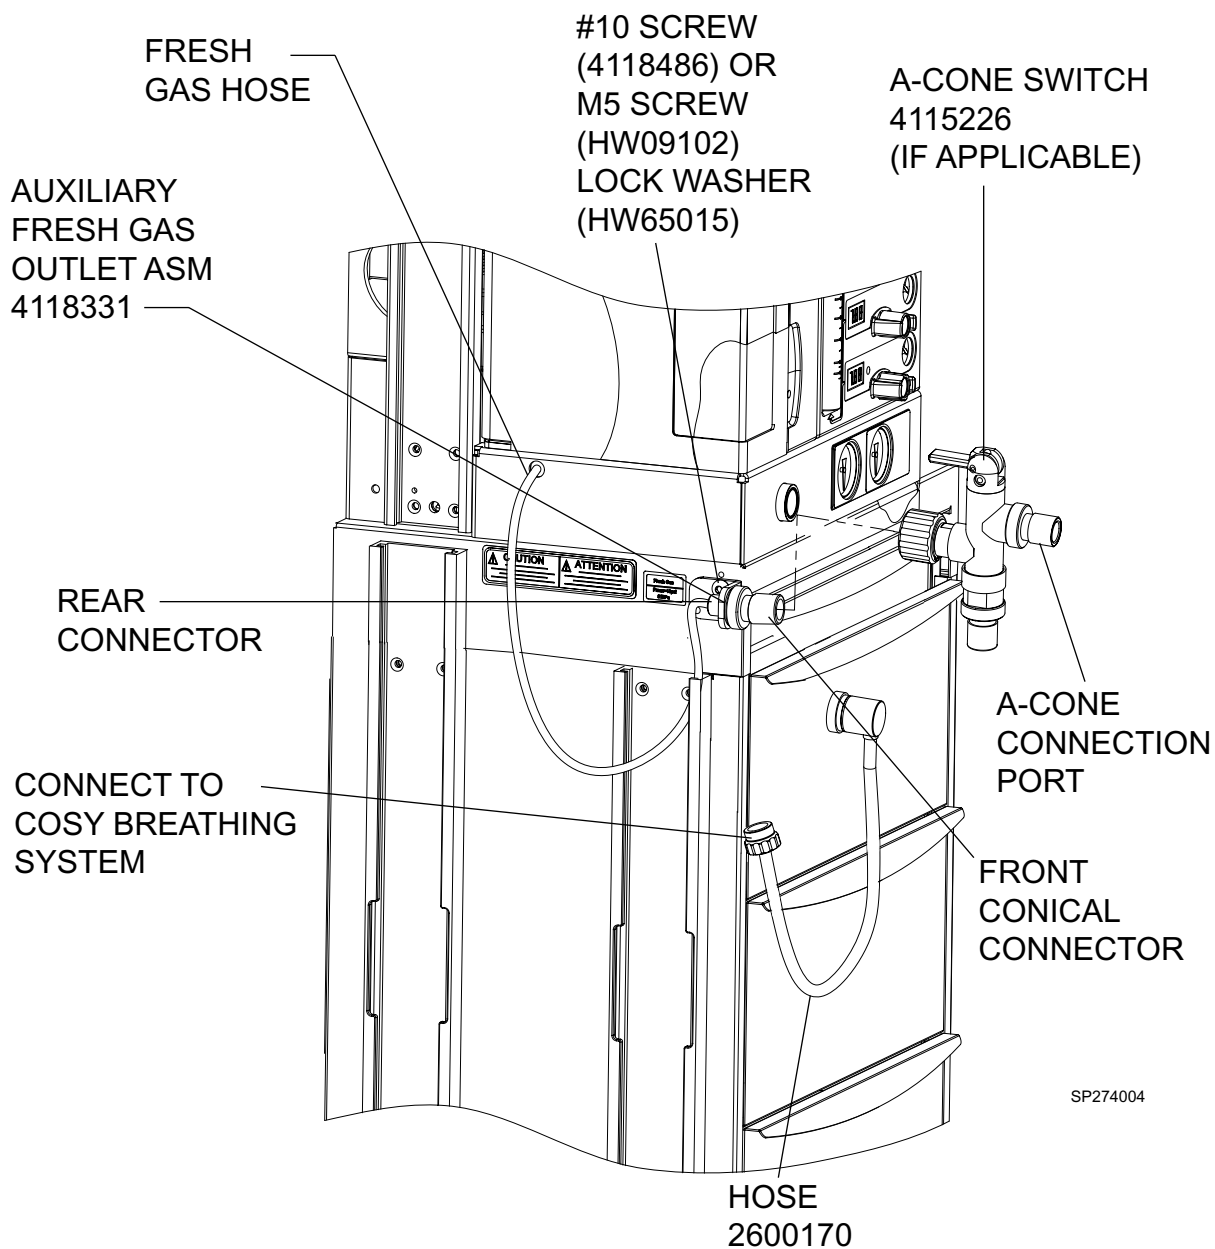
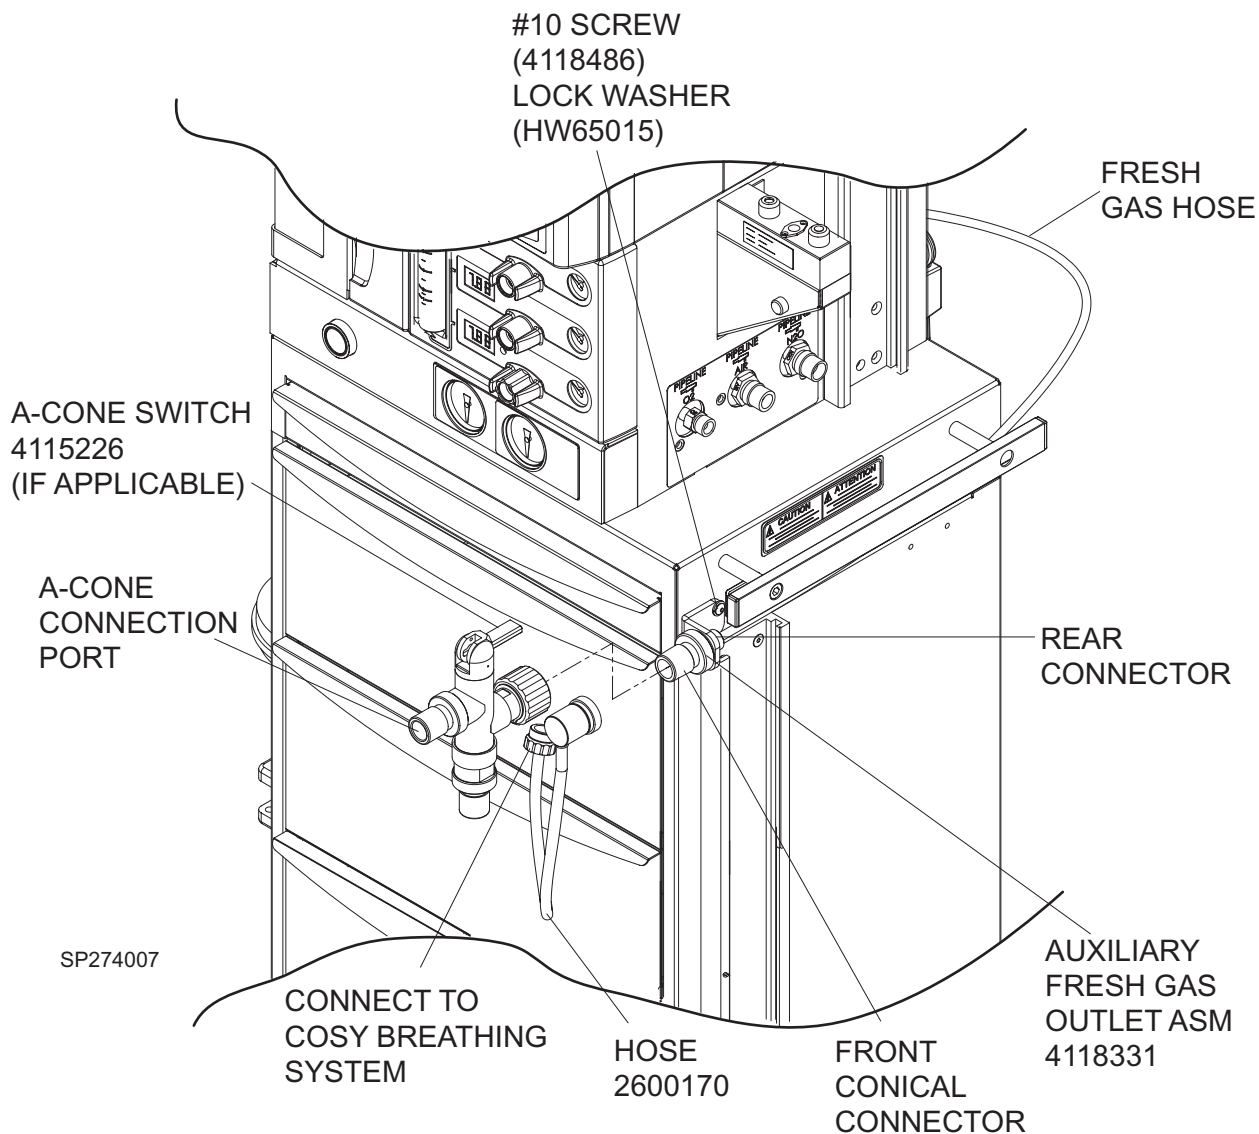
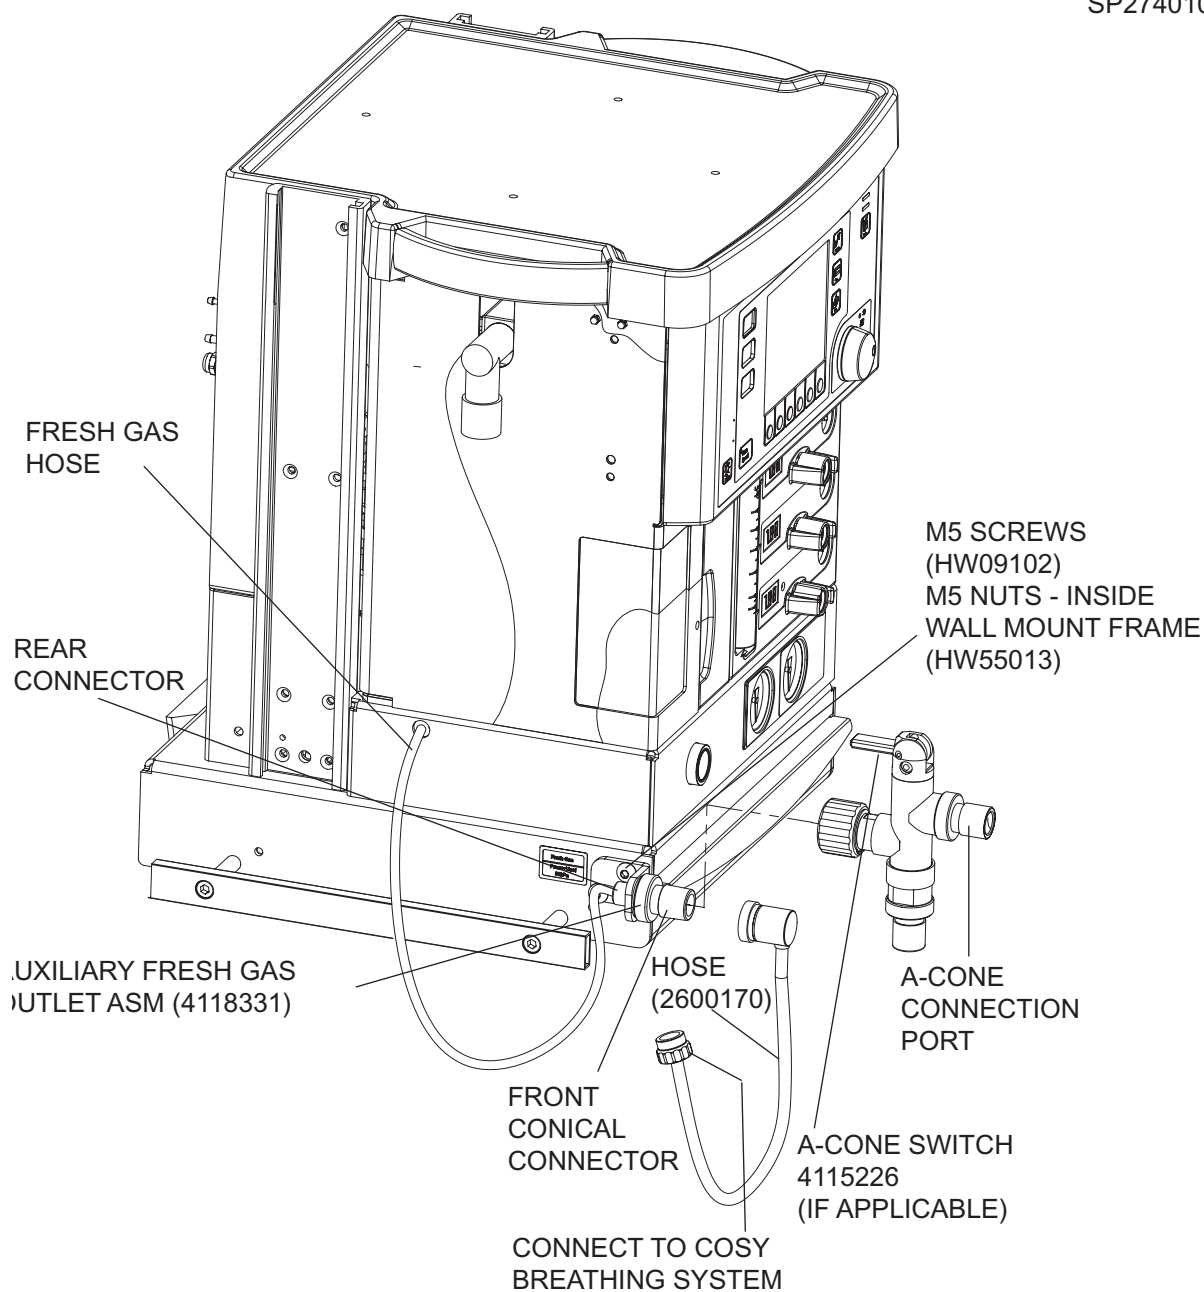
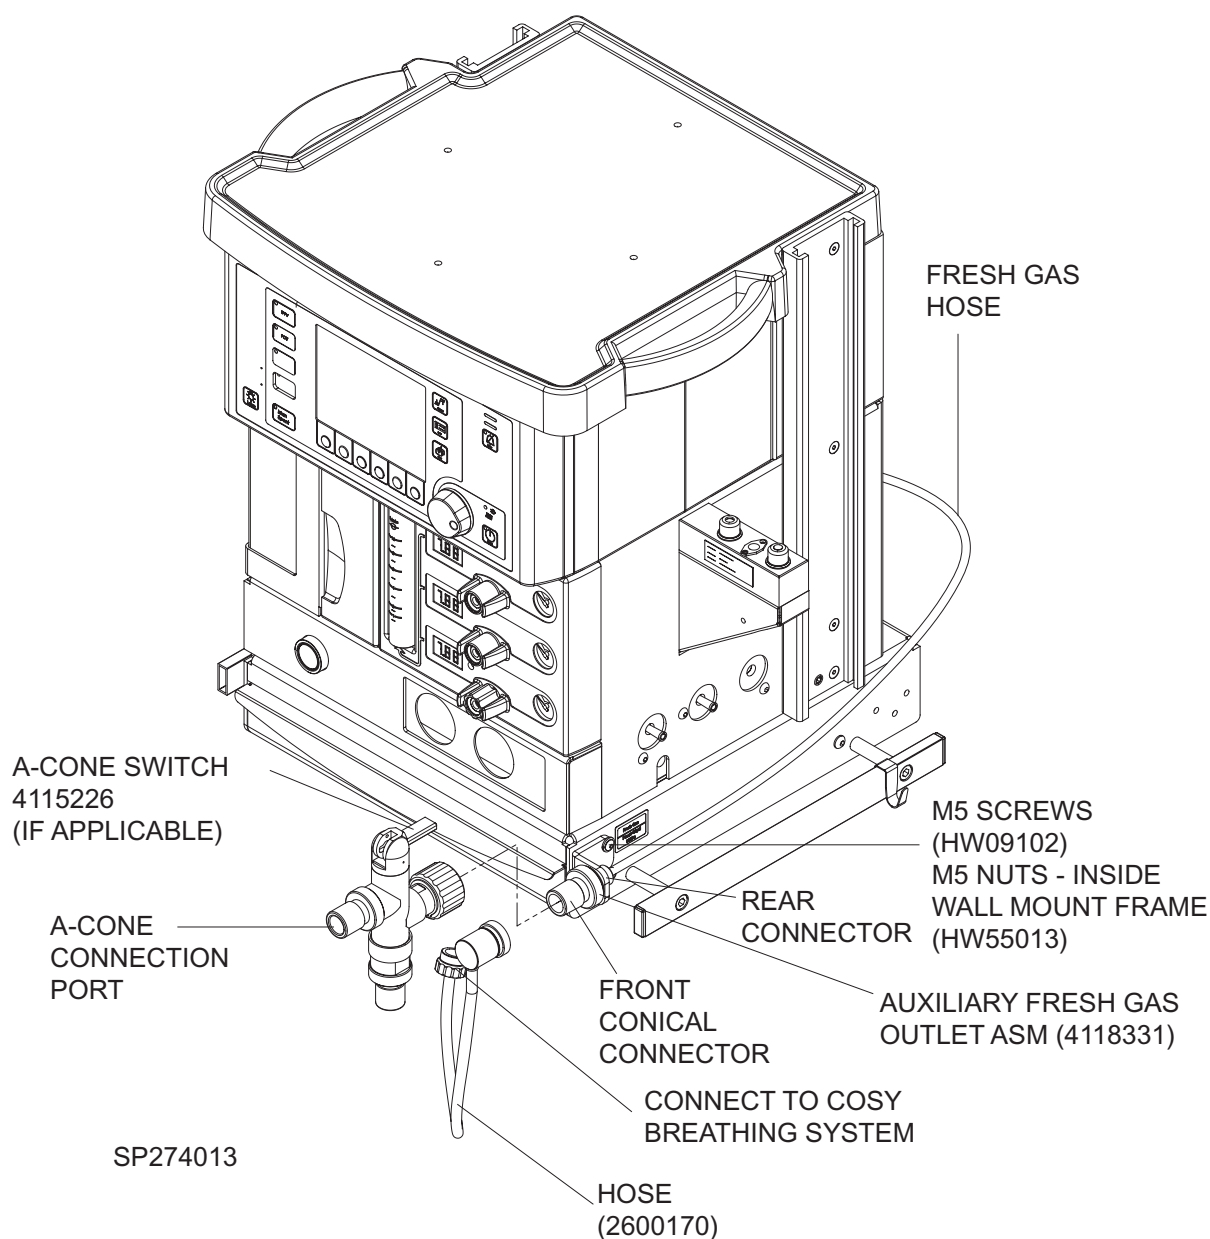

FIGURE 2. Left Side Trolley Mount Auxiliary Fresh Gas Outlet Installation
FIGURE 5. Right Side Trolley Mount Auxiliary Fresh Gas Outlet Installation
FIGURE 7. Left Side Wall Mount Auxiliary Fresh Gas Outlet Installation
FIGURE 10. Right Side Wall Mount Auxiliary Fresh Gas Outlet Installation
- 3.1.2.1 Using two (2) #10 self tapping screws and two (2) lock washers, or two (2) M5 screws and two (2) lock washers, attach the Auxiliary Fresh Gas Outlet Assembly to the left side of the Fabius Tiro in the location shown on FIGURE 2.
3.2.2.1 Using two (2) #10 self tapping screws and two (2) lock washers, attach the Auxiliary Fresh Gas Outlet Assembly to the right side of the Fabius Tiro in the location shown on FIGURE 5.
- 4.1.2.1 Using two (2) M5 screws and two (2) kep nuts, attach the Auxiliary Fresh Gas Outlet Assembly to the left side of the Fabius Tiro in the location shown on FIGURE 7.
4.2.2.1 Using two (2) M5 screws and two (2) kep nuts, attach the Auxiliary Fresh Gas Outlet Assembly to the right side of the Fabius Tiro in the location shown on FIGURE 10.
- 5.2 Join the Fabius TIRO's fresh gas hose to the rear connector on the Auxiliary Fresh Gas Outlet Assembly. For left side trolley mount, refer to FIGURE 2. for location of the Auxiliary Fresh Gas Outlet Assembly rear connector. For right side trolley mount, refer to FIGURE 5. for location of the Auxiliary Fresh Gas Outlet Assembly rear connector. For left side wall mount, refer to FIGURE 7. for location of the Auxiliary Fresh Gas Outlet Assembly rear connector. For right side wall mount, refer to FIGURE 10. for location of the Auxiliary Fresh Gas Outlet Assembly rear connector.